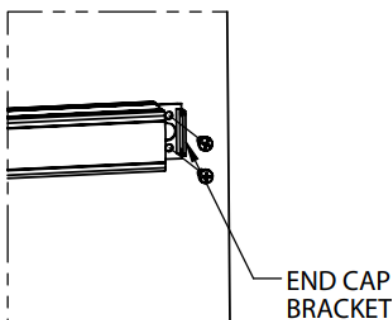

FIGURE 10-4
- E. Remove the flush end cap from the flush end cap bracket. Place the flush end cap bracket inside the back end of the exit device. Mark the hole locations. For metal doors, drill and tap for 1/4" - 20 machine screws. For wood doors, pre-drill 1/8" holes. For sex bolts, drill 5/16" clearance holes on exit device side (push side) and 3/8" clearance holes on pull side (see Figure 10-4). Attach the end cap bracket to the door